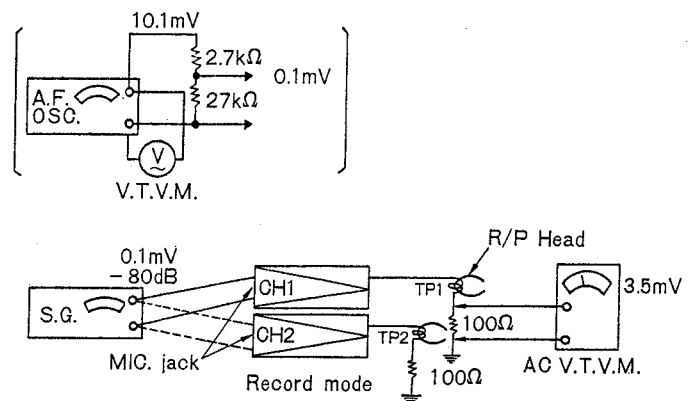
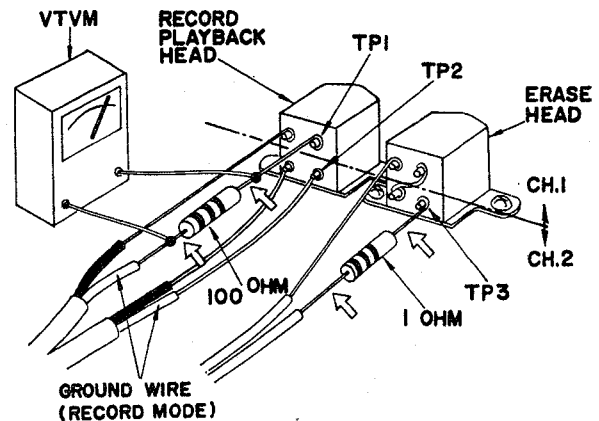
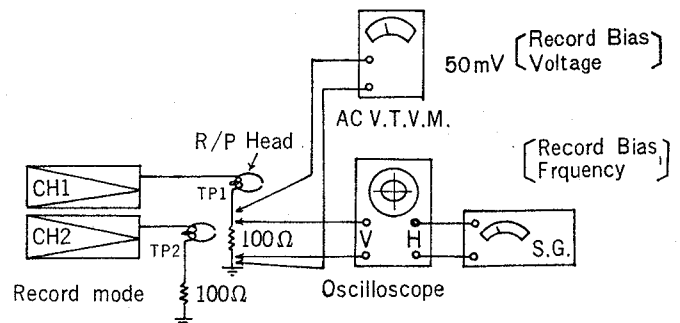
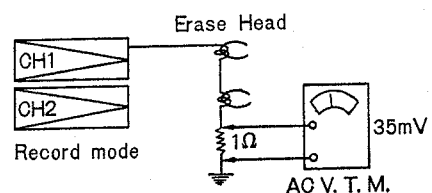

Figure 17
Figure 18
Figure 19
Figure 20
## 2. RECORD AMPLIFIER SENSITIVITY (Refer to Figure 17 and Schematic Diagram)
Refer to Figure 17 and Figure 18
### 3. RECORD BIAS VOLTAGE (Refer to Figure 18 and Figure 19)
Refer to Fig. 18 and Fig. 19
### 4. RECORD BIAS FREQUENCY (Refer to Figure 19)
(Refer to Figure 19)
1. As shown in Fig. 19 insert a 100Ω Resistor to ground Lead Wire of Record/Playback Head. Connect vertical Axis of Oscilloscope across Resistor. Connect horizontal Axis of Oscilloscope to Output Terminal of Signal Generator.
2. When the recorder is set to "RECORD" mode, connected as above, Lissajou's Figure 19 will appear on the Oscilloscope. Refer to this Figure 19 to check frequency of Bias Oscillator. The standard Frequency is approximately 75~85KHz.
### 5. ERASE VOLTAGE (Refer to Figure 18 and 20)
Refer to Fig. 18 and Fig. 20